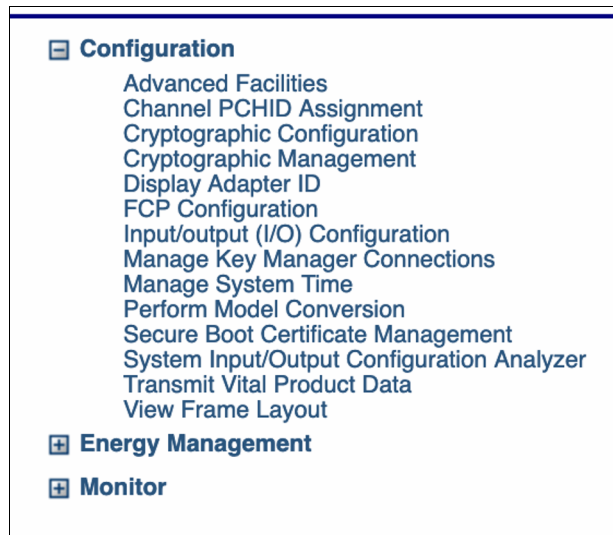

Figure 28 Select FCP Configuration
3. Open the **Configuration** menu in the bottom center section, and select **FCP Configuration** (Figure 28).